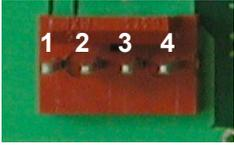

Figure 2-3 Power connector
4. Connect the power connector; making sure that the +5V goes to V+ as shown in Figure 2-3. Turn on the power: the LCD backlight should come on with a blinking cursor in the top left corner.